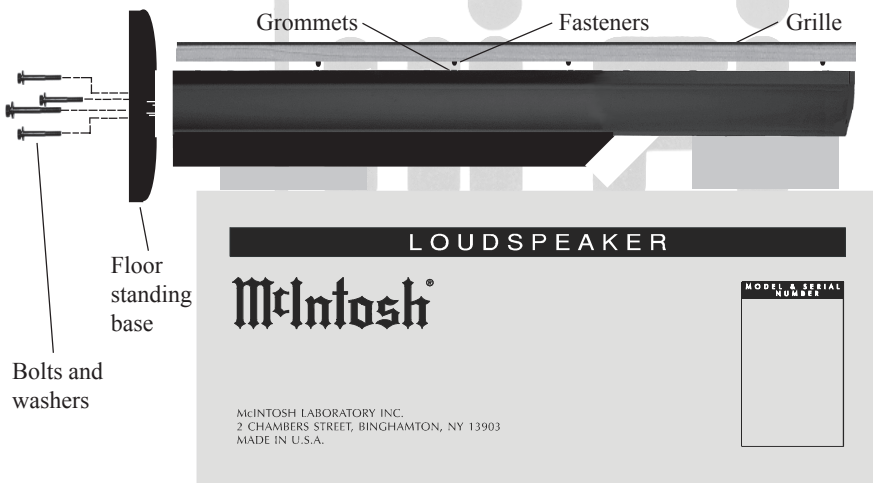

Figure 7
8. Orient the Floor Standing Base with the widest end of the base facing up and the totally flat side of the base pointing away from the XLS360. Refer to figure 7.